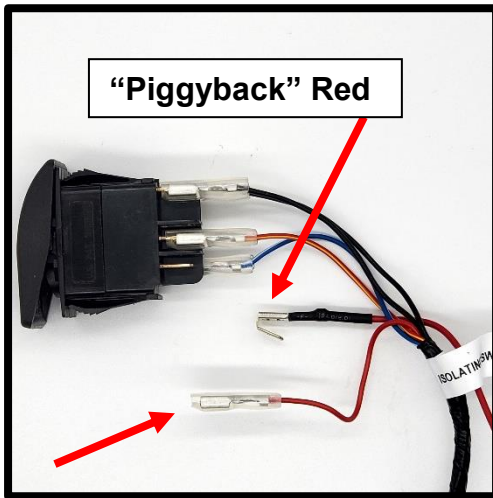

Figure 30
- 5-H) Attach the isolation switch terminal connectors to the ARB switch as per the diagram in the ARB instructions with one exception. Attach the **red** wire with the “piggyback” connector from the ARB pressure control module to the ARB switch where ARB indicates to attach the **red** wire. Then attach the **red** wire terminal connector to the “piggyback” of the ARB pressure control module **red** wire as shown in **Figures 30** and **31**.